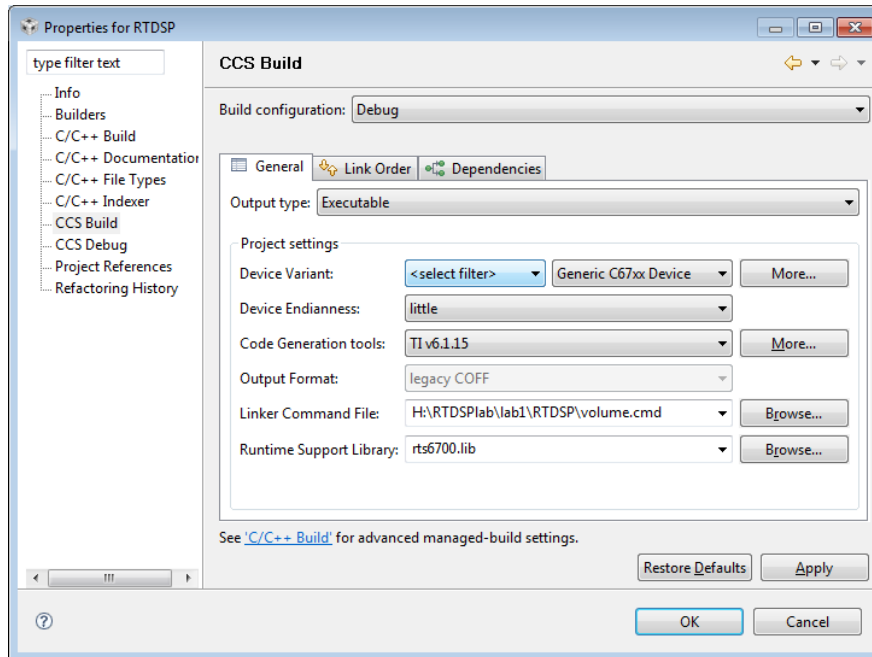

Figure 4: Setting up the linker command file
- Use the menu **Project**→**Properties** to open the properties dialog then select **CCS Build** in the left hand tree structure. Ensure that the linker command file box is set up as of figure 4 by hitting the **Browse** button next to it and navigating and opening the file *H:\RTDSPlab\lab1\RTDSP\volume.cmd*